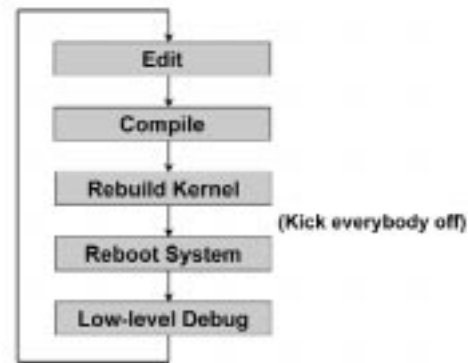

Figure 5. Conventional OS architectures make driver development awkward and time-consuming
1. Every time you fix a driver, you typically have to rebuild the kernel and reboot (see Figure 5).